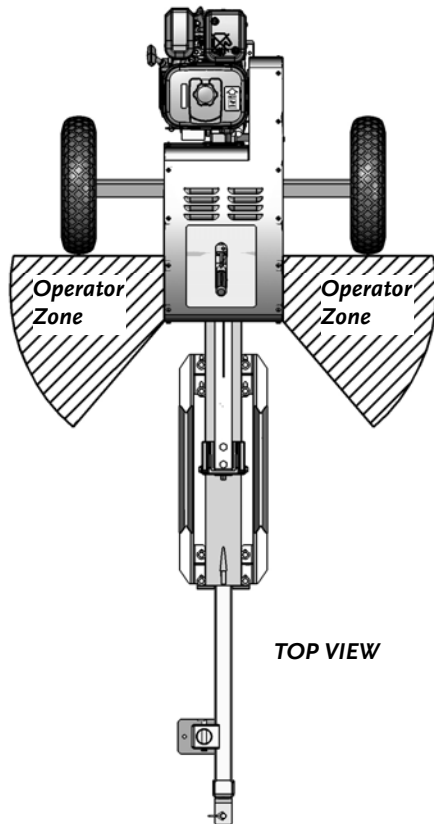

Figure 6
- When operating the Log Splitter, make sure you are standing in the safe operating area (OPERATOR ZONE) as shown in **Figure 6**. You must stay in the safe operating area at all times when the ram is in motion (whether extending or retracting). Never place any part of your body into a position that causes an unsafe operating condition.